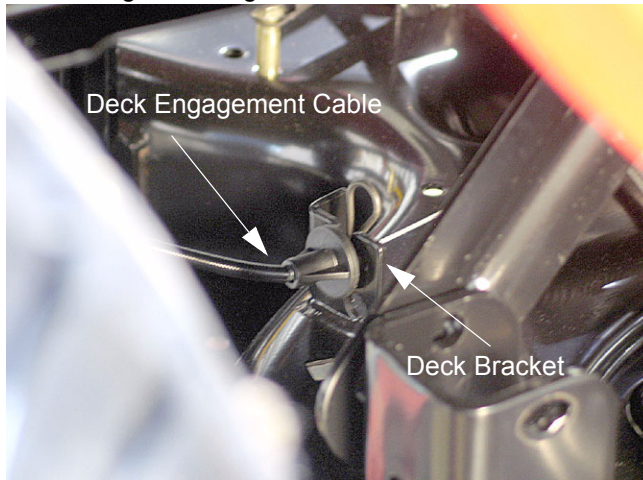

Figure 5
- 1.10. Using needle nose pliers, remove the hairpin clip securing the deck engagement cable to the deck flange. See Figure 5.